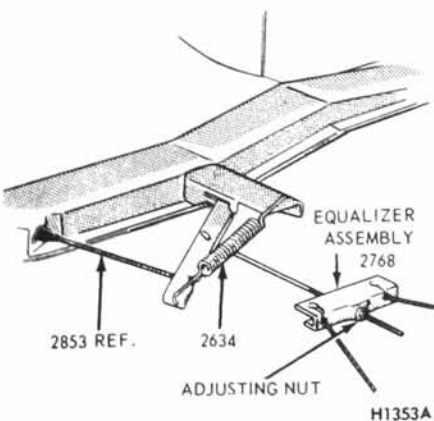

FIG. 1—Parking Brake Linkage Adjustment
4. Turn the adjusting nut forward against the equalizer until a moderate drag is felt when turning the rear wheels (Fig. 1).